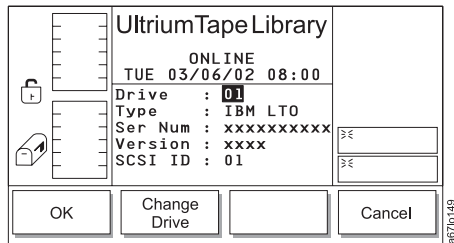

Figure 4-26. Drives Dialog
2. Press the button below the **Drives** softkey. The Drives Dialog displays (see Figure 4-26).